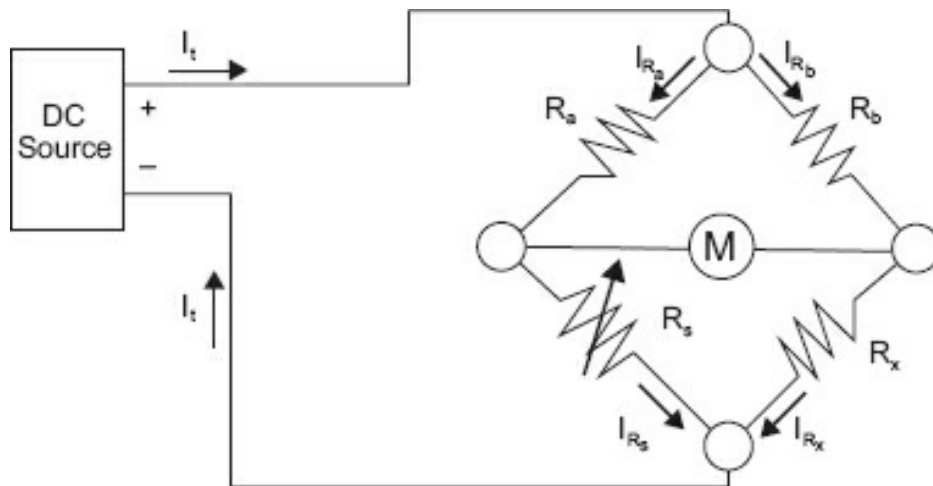

Figure 4-5. Current for bridge mathematics.
For the bridge in Figure 4-5 to be balanced (no potential difference between A and B), the following conditions must be met:
Therefore, for the bridge in Figure 4-5:
- The formula for a Wheatstone bridge (as drawn in Figure 4-5) is $R_x = R_b / R_a \cdot R_s$.